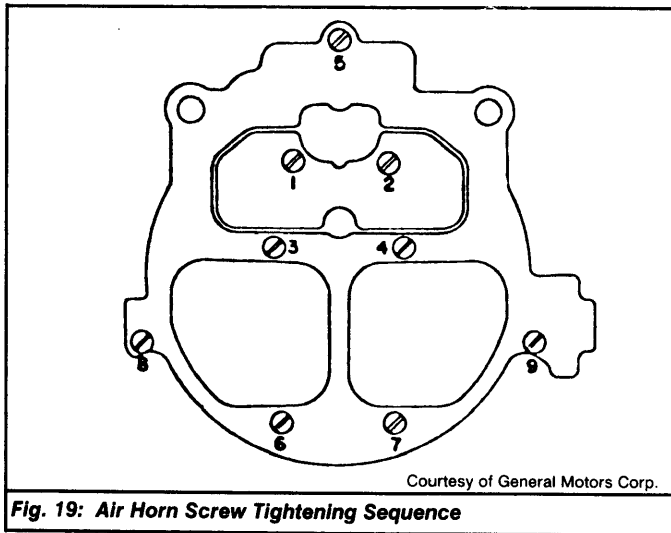

Fig. 19: Air Horn Screw Tightening Sequence
3) Install 2 long air horn screws, 5 short screws, and 2 countersunk screws into primary venturi area. If used, install secondary air baffle beneath 2 center air horn screws. All air horn screws must be tightened evenly and securely. See Fig. 19.